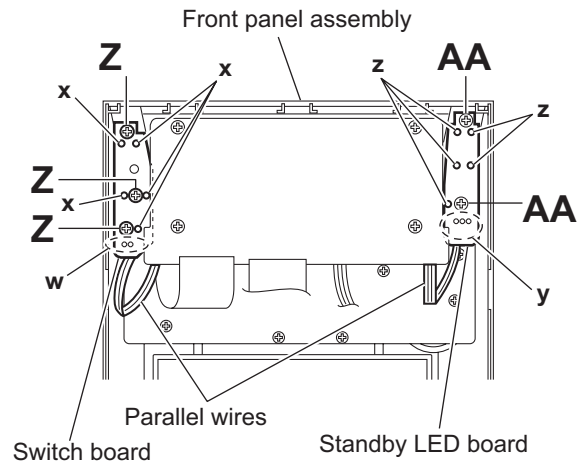

Fig.27
3.1.14 Removing the switch board (See Fig.27)
3.1.15 Removing the standby LED board (See Fig.27)